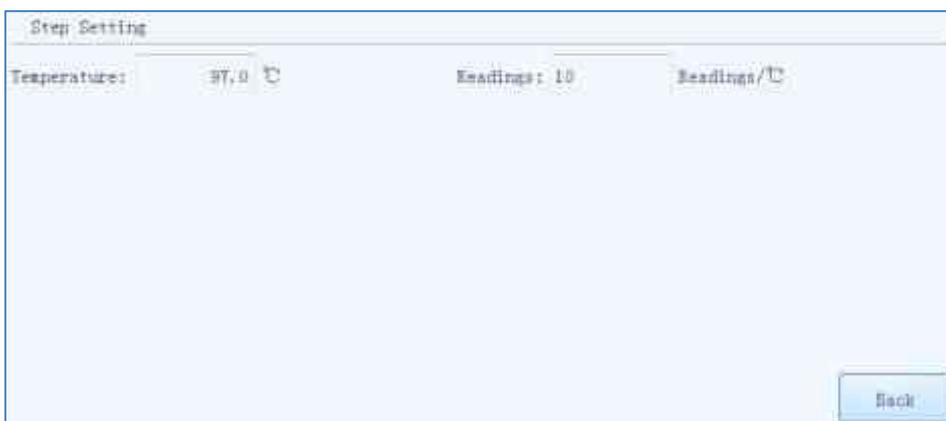

Figure E-3.9. Step Edit window - Continuous Melting step mode
- ① **Reminding:** the temperature increment setting range is 0.1°C - 5.0°C.
- 6) If the current step is the last step of a continuous melting stage, the step setting window of this step is as shown in figure E-3.9.